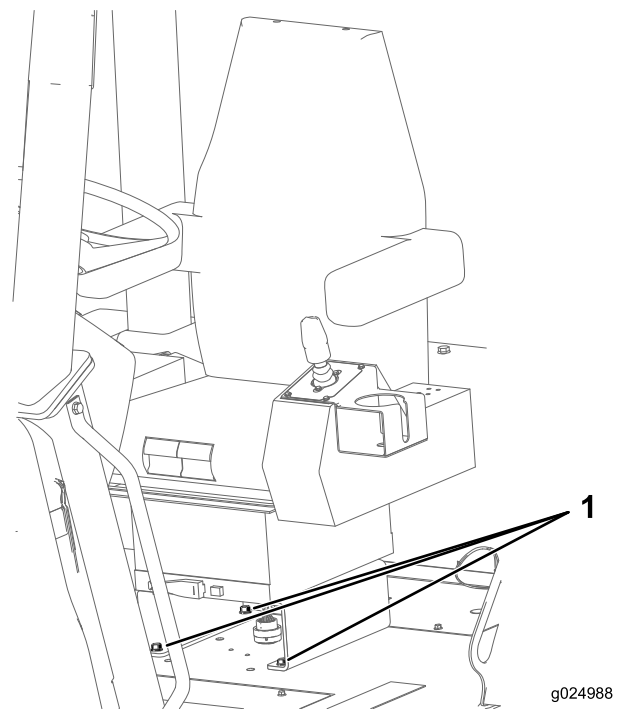

Figure 118
1. Check that the bolts that secure the seat to the chassis of the machine are torqued to 27 to 34 N-m (20 to 25 in-lb); refer to Figure 118.